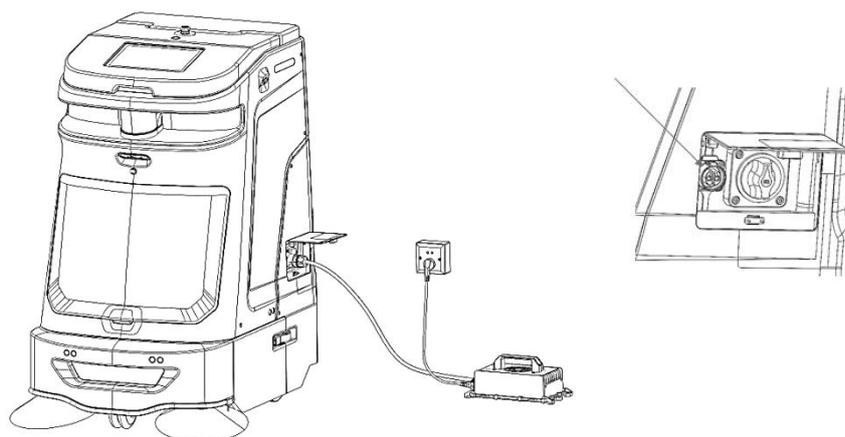

FIG.29
- 3) Connect the input plug of the charger to the AC power source as shown in FIG.29.